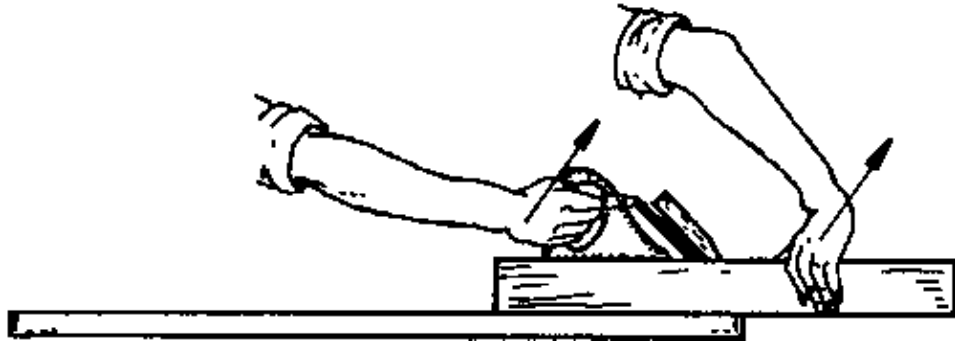

Fig. 2
– When you use the plane, try to put pressure on it in such a way that the part of the sole which is in contact with the wood is pressed firmly to the wood surface. At the start of the stroke when the cutting iron does not yet touch the wood, put pressure on the front part of the plane (Fig. 1). When the cutting iron comes to the end of the board, press down more on the heel of the plane (Fig. 2).